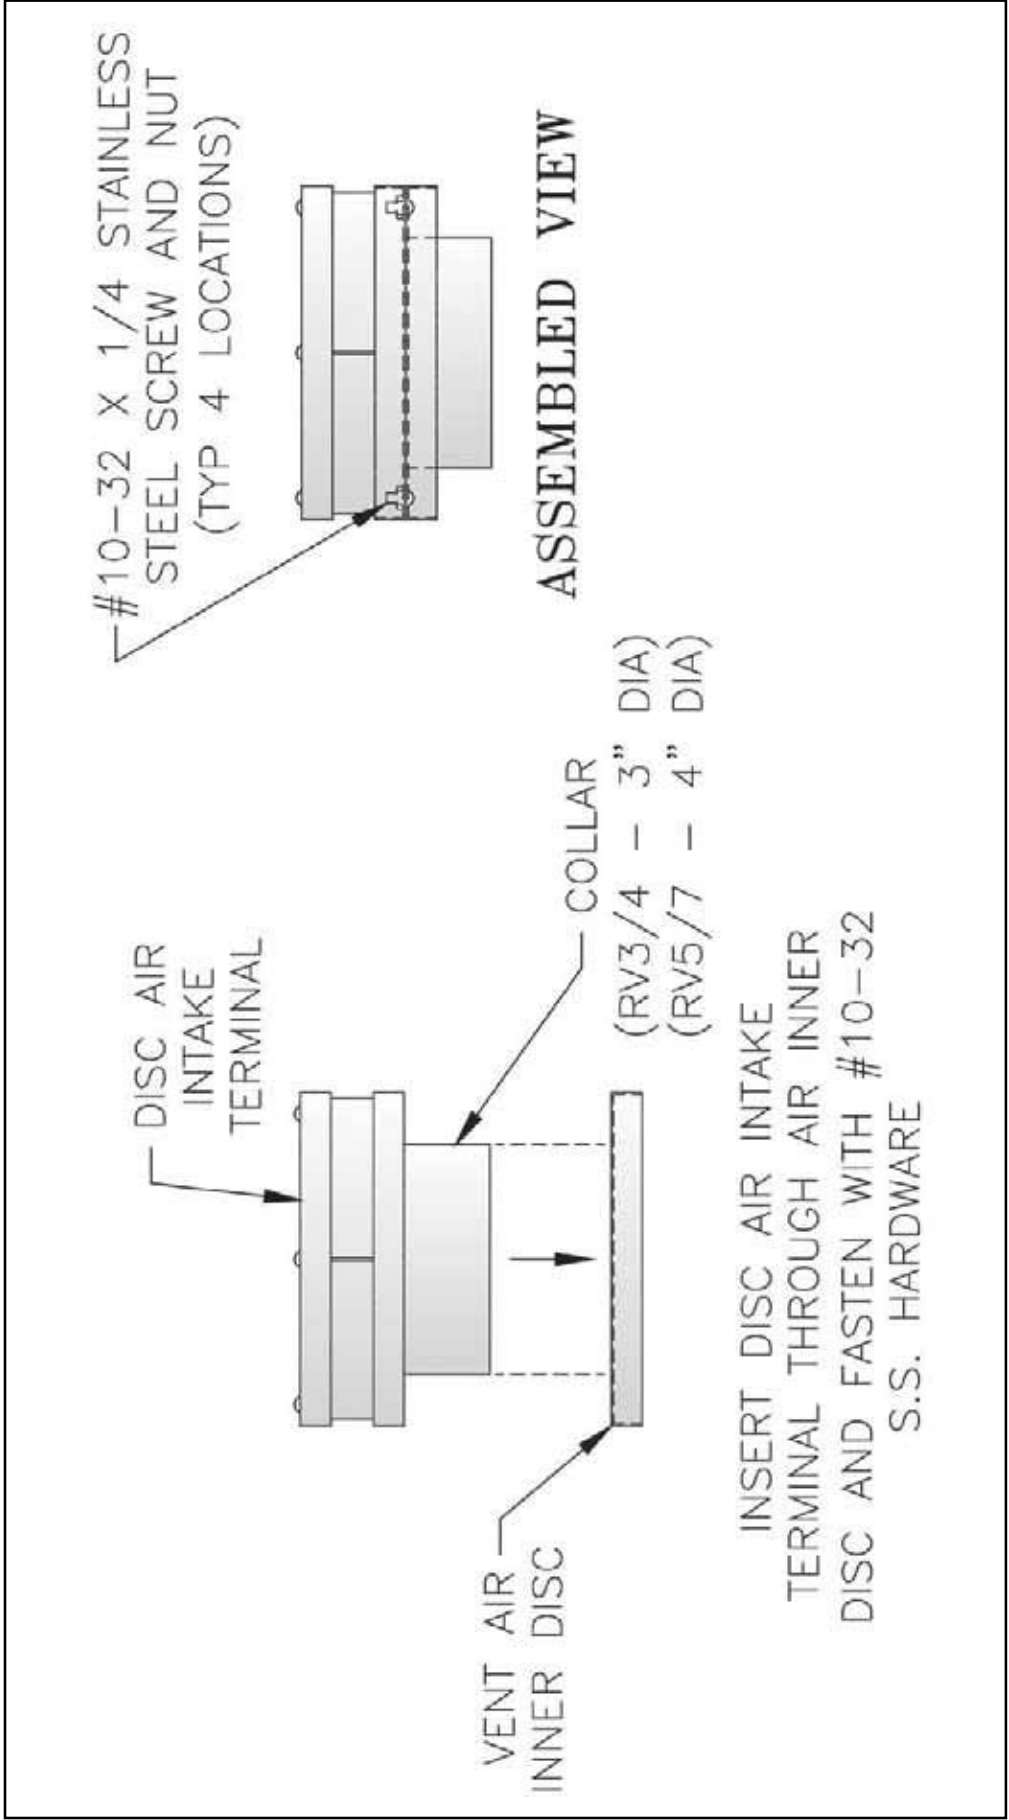

Figure 13: Combination Vertical – Air Intake Terminal Assembly
11. Install one (1) foot B-vent pipe into top leg of B-vent tee. Seal per B-vent manufacturer's instructions.
12. Install disc air intake terminal (supplied with boiler) to one (1) foot B-vent pipe.
- a. Insert collar of disc air intake terminal into air intake inner disc. Secure disc air intake terminal to inner disc using four (4) 10 - 32 x ¼ inch stainless steel machine screws and stainless steel nuts provided. See Figure 13.
- b. Install inner disc/air intake terminal assembly onto top of one (1) foot B-vent pipe. Secure inner disc to B-vent pipe and seal with RTV.